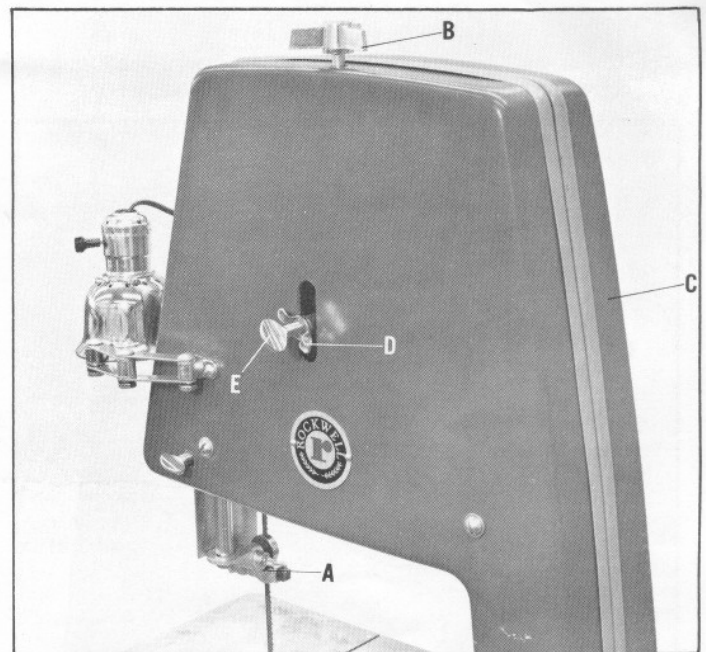

Fig. 9.
- Move the upper blade guide (A) Fig. 9 to the highest position.
- Turn the tension adjusting screw (B) Fig. 9, clockwise to increase or counterclockwise to decrease blade tension.
- Remove the front guard (C) Fig. 9, and revolve the upper wheel slowly by hand to determine if the blade is riding in the center of the wheel.
- If the blade is not riding in the center of the wheel, loosen locknut (D) Fig. 9, and while turning the wheel by hand, turn the adjusting screw (E) slightly to the left. You will notice that the blade will move to either side of the wheel.
- When the blade is on the center of the upper wheel, tighten locknut (D) Fig. 9.